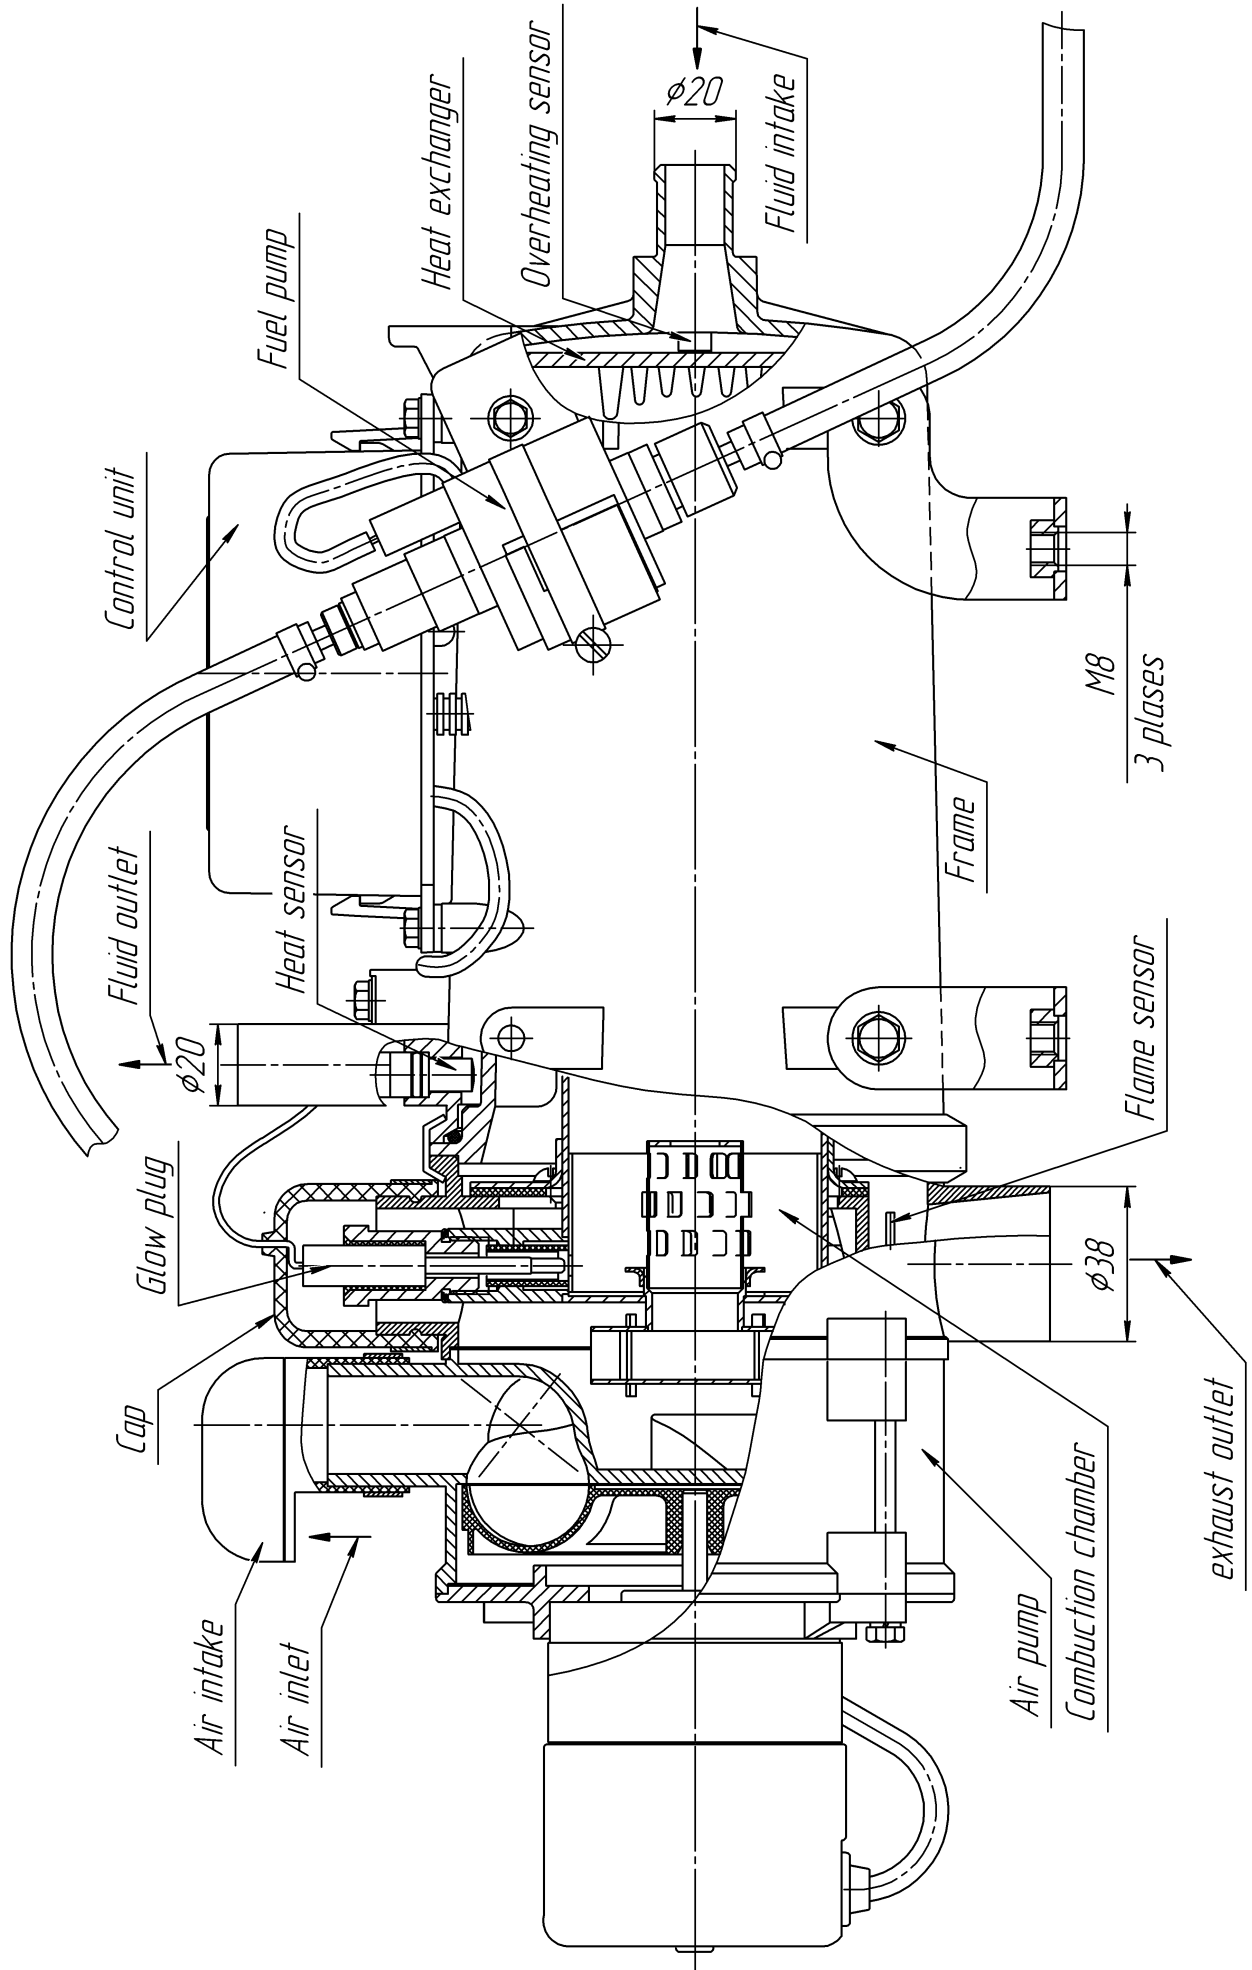

Figure 3 – Pre-heater basic components
- heater (main components are given in Figure 3);
The positions of the key switch are marked with figures 3 and 8 correspondingly.